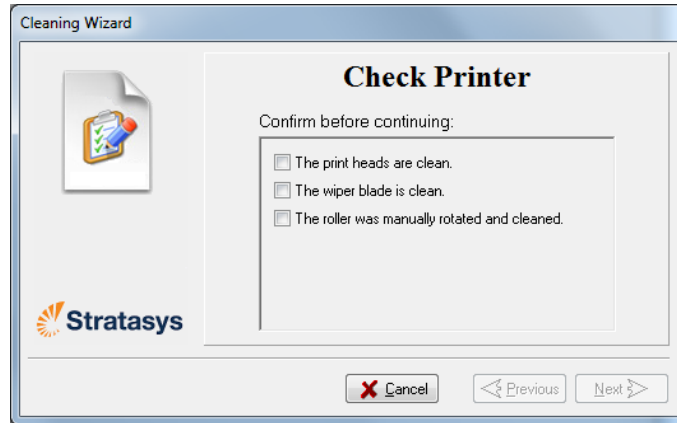

Figure 6-27 Wizard screen during cleaning tasks
15. When you have finished cleaning, select the confirmation check boxes in the wizard screen (see Figure 6-27) and click **Next**.